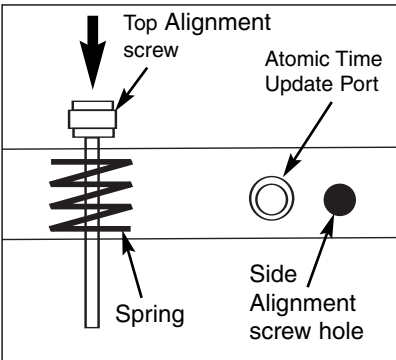

Fig. 35: Interior side view of LNT Module.
2. Remove the side alignment screw cap/long bolt from the LNT Module. Take note that there are two springs inside the LNT. One spring sits between the top and bottom of the unit. The second spring is on the side of the unit that rests between the bottom and the top sections. One long bolt passes through the top spring and the other long bolt passes through the side spring. Set the springs aside as you will need to replace it later in this assembly. See **Fig. 35 and 36**.